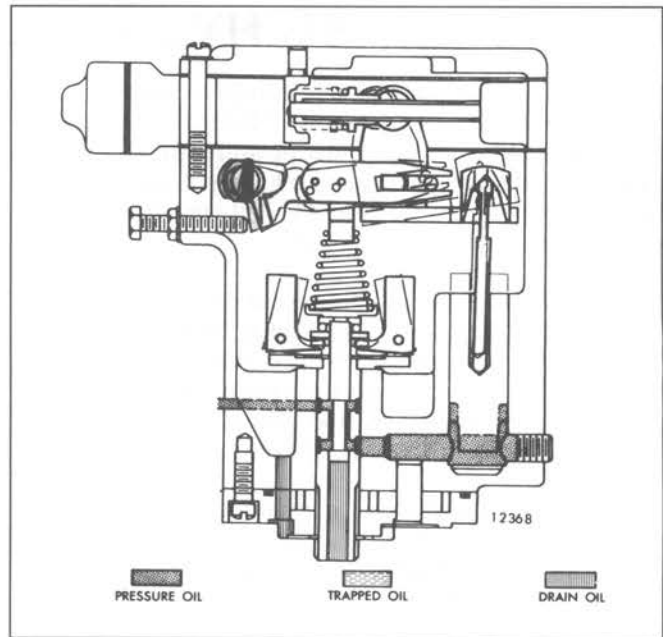

Fig. 3 – Position of Governor Mechanism as Load Increases and Engine Speed Tends to Decrease
19. If removed, attach the booster spring bracket to the cylinder head. Then attach the booster spring to the speed control lever (Fig. 3) and tighten the outer booster spring adjusting nut on the eyebolt.
this port uncovered, oil, under pressure of the governor pump, will be admitted to the cavity at lower end of the power piston and force the piston and floating lever upward as shown in Fig. 3. The upward motion of the piston is transmitted through the terminal lever and the fuel rod to the injector control tube, causing the fuel setting of the engine to be increased.